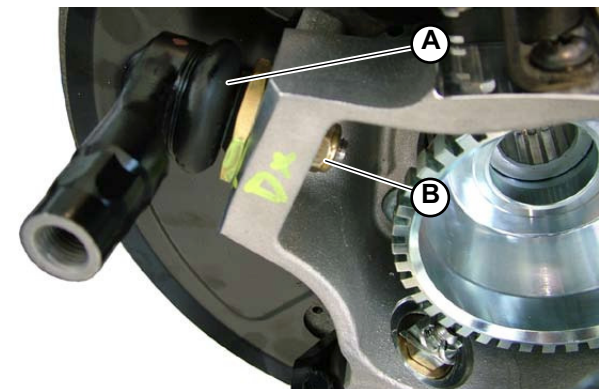

Fig.1
1. Position the steering joint (**A-Fig.1**) and tighten the nut (**B-Fig.1**).